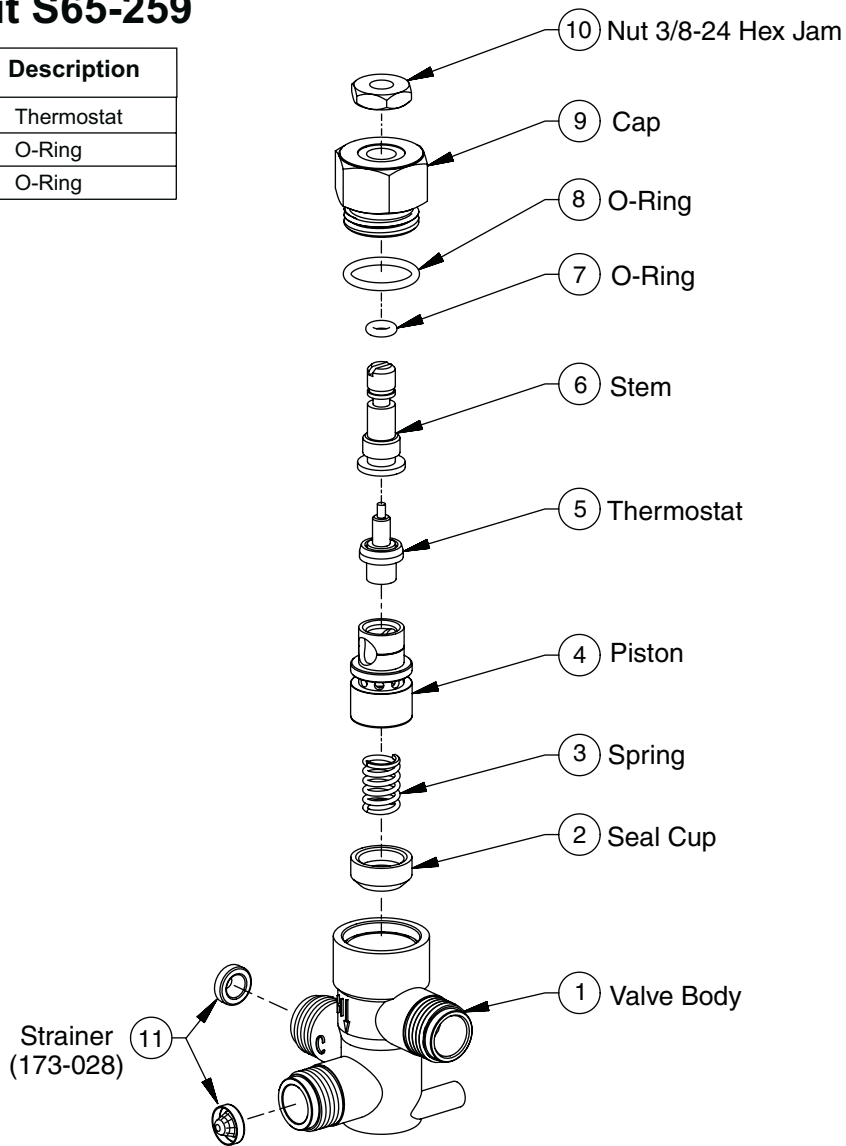

Figure 14
1. Remove and clean strainer (see Figure 14 or 15 on page 29). If strainer needs to be replaced, order Bradley part no. 173-028.
1. Remove the valve's cap and thermostat (see Figure 14 on Page 29).